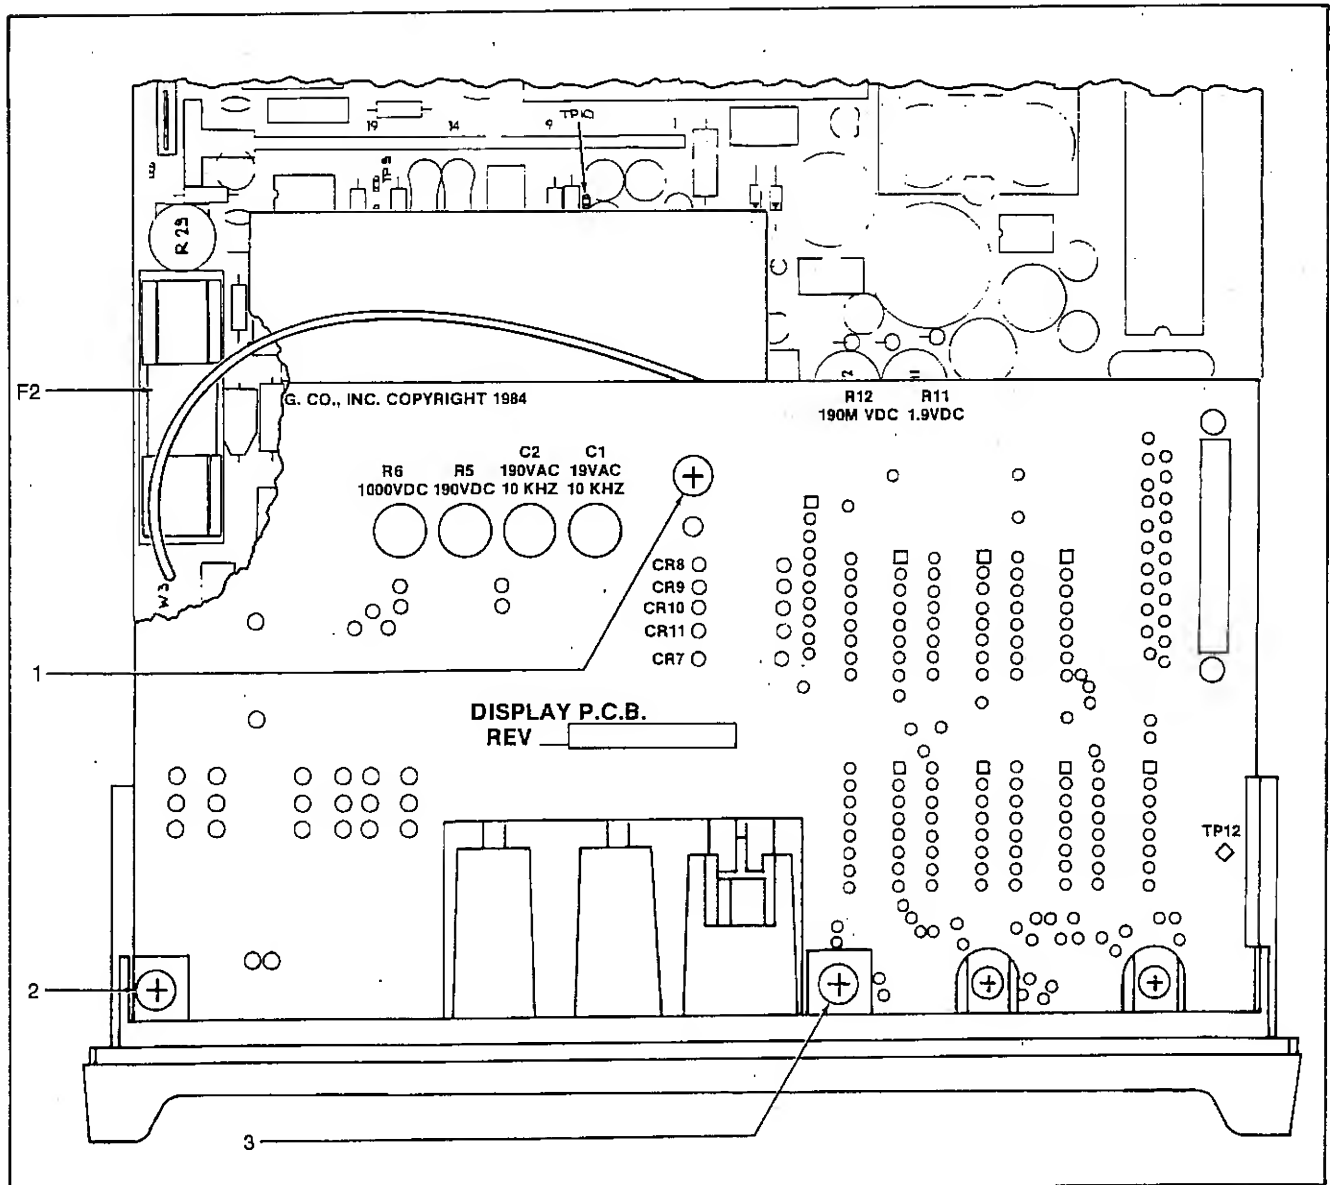

Figure 4-1. Display PCB Access
2. Refer to Figure 4-1. Turn the instrument over and remove the indicated screws.
2. Using a wide flat-blade screwdriver, pry the fuse out from the fuse holder. (Refer to Figure 4-1 for the location of F2.)